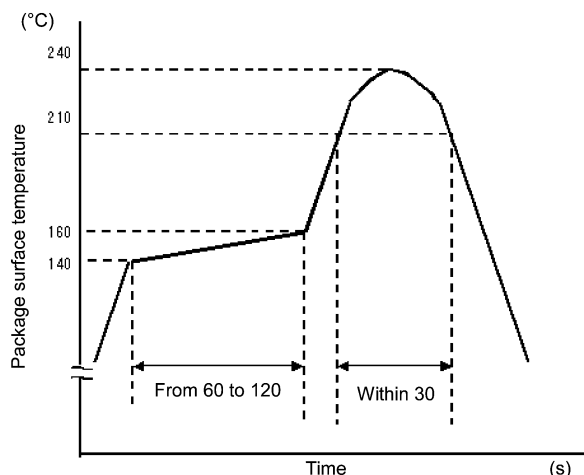

Fig. 14.1.1 An Example of a Temperature Profile When Sn-Pb Eutectic Solder Is Used
- When using soldering reflow (See Fig. 14.1.1 and 14.1.2)